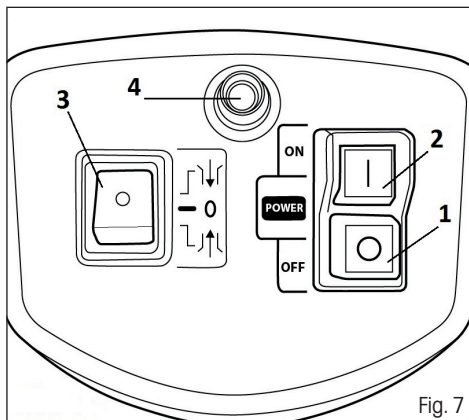

Fig. 7
Turning the shredder on and off (Fig. 7)
- ✿ To turn on the shredder, press the button with the "1" symbol. Fig. 7., point 2
- ✿ To turn off the shredder, press the button with the "0" symbol. Fig. 7., point 1
Forward / reverse rotation switch (Fig. 7, point 3)
- ✿ The shredder is equipped with overload protection (Fig. 7, point 4)
4. Press the safety fuse button (Fig. 7, point 4).